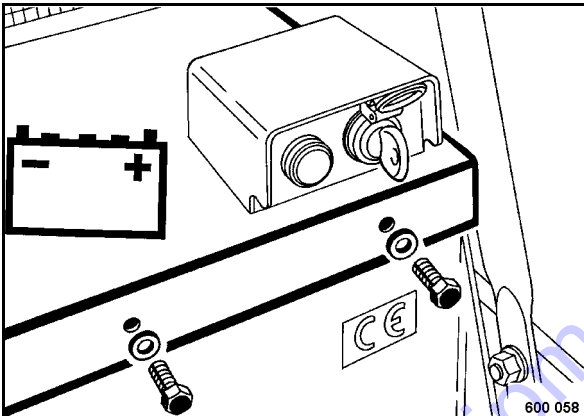

Fig. 38
- Unscrew the fastening screws (Fig. 38) for the cover plate and fold the cover up.